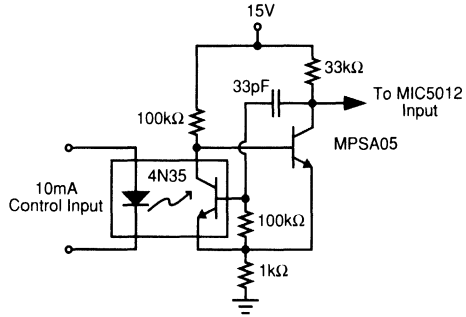

Figure 4. Improved Opto-Isolator Performance
**Opto-Isolated Interface** (Figure 4). Although the MIC5012 has no special input slew rate requirement, the lethargic transitions provided by an opto-isolator may cause oscillations on the rise and fall of the output. The circuit shown accelerates the input transitions from a 4N35 opto-isolator by adding hysteresis. Opto-isolators are used where the control circuitry cannot share a common ground with the MIC5012 and high-current power supply, or where the control circuitry is located remotely. This implementation is intrinsically safe; if the control line is severed the MIC5012 will turn OFF.